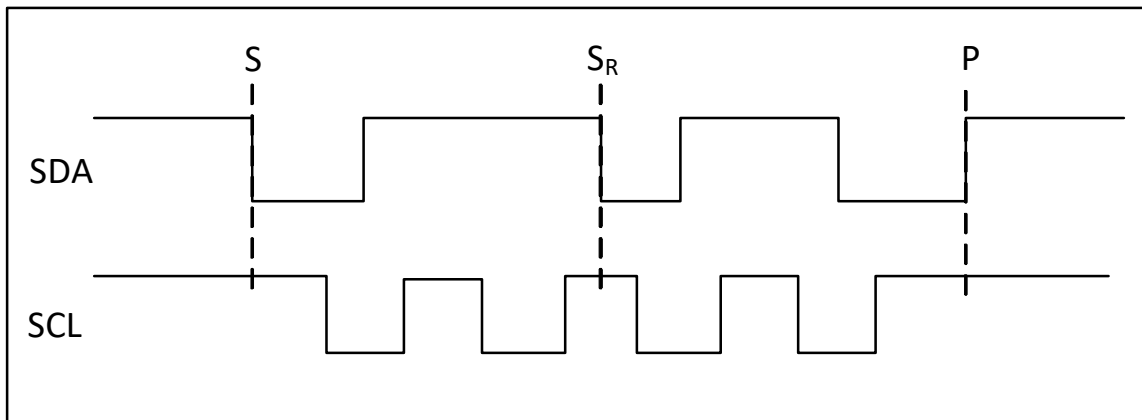

Figure 8. Start and Stop Conditions
The I2C/SMBus serial port is a two-wire serial bus where data line SDA is bidirectional and clock line SCL is unidirectional. Reads and writes to this interface by the master are byte-oriented, with the I2C/SMBus master controlling the serial data rates up to 240 kbps. The SDA and SCL lines must be pulled high through pull-up resistors of 5 k $\Omega$  or less. An Si8901 ADC read transaction begins with a START condition (“S” or Repeated START condition “SR”), which is defined as a high-to-low transition on SDA while SCL is high (Figure 8). The master terminates a transmission with a STOP condition (P), defined as a low-to-high transition on SDA while SCL is high. The data on SDA must remain stable during the high period of the SCL clock pulse because such changes in either line will be interpreted as a control command (e.g., S, P SR). SDA and SCL idle in the high state when the bus is not busy. Acknowledge bits (Figure 9) provide detection of successful data transfers, whereas unsuccessful transfers conclude with a not-acknowledge bit (NACK). Both the master and the Si8901 generate ACK and NACK bits. An ACK bit is generated when the receiving device pulls SDA low before the rising edge of the acknowledged related (ninth) SCL pulse and maintains it low during the high period of the clock pulse. A NACK bit is generated when the receiver allows SDA to be pulled high before the rising edge of the acknowledged related SCL pulse and maintains it high during the high period of the clock pulse. An unsuccessful data transfer occurs if a receiving device is busy or if a system fault has occurred. In the event of an unsuccessful data transfer, the bus master attempts communication at a later time. Figure 10A shows the I2C Slave Address Byte and CNFG\_0 byte for the Si8901. Figure 10B and Figure 10C show master/Si8901 ADC read transactions for Demand Mode and Burst Mode, respectively.